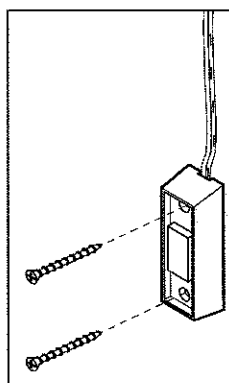

FIG. 3-4 Mounting wall control.
- Fasten wall control to wall with 2 screws (provided) (Fig. 3-4).